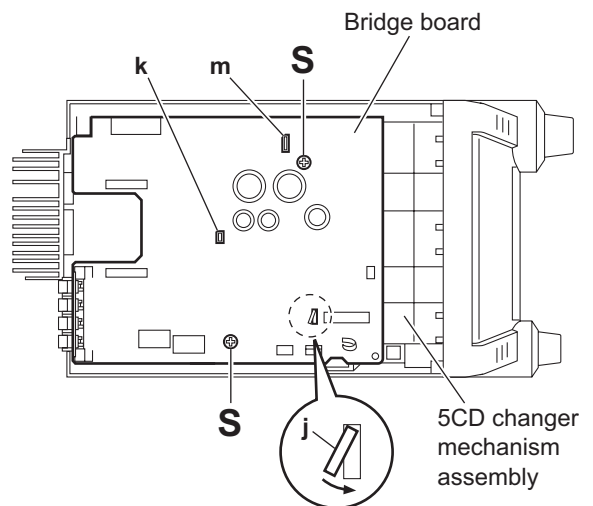

Fig.20
- (3) Remove the two screws **S** attaching the bridge board on the 5CD changer mechanism assembly. (See Fig.20.)
- (4) Bend the claw **j** in the direction of the arrow and remove the bridge board in an upward direction. (See Fig.20.)
- When attaching the bridge board, align the projections (**k,m**) in the hole of the bridge board. (See Fig.20.)